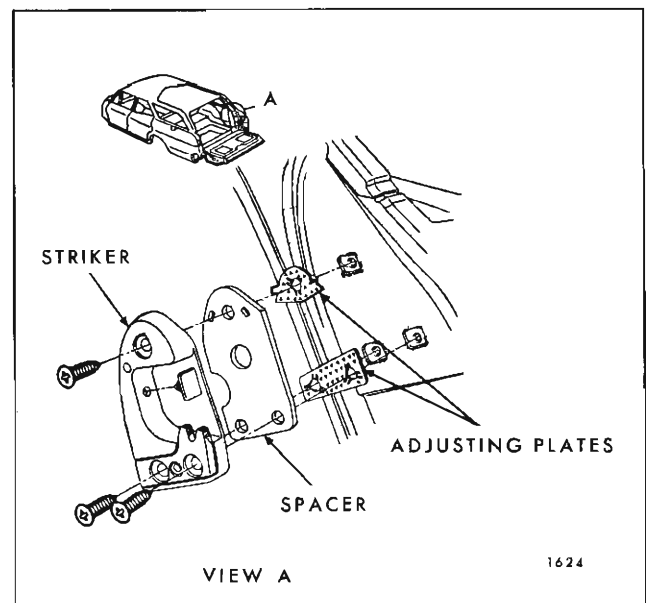

Fig. 1F30—Tail Gate Lock Striker Assembly
3. To install tail gate lock striker, place striker and adjusting plates within marks on body pillar and install striker attaching screws (see Fig. 1F30).
- To determine if tail gate lock striker emergency spacers are required, apply modeling clay or body caulking compound in the lock striker notch where the lock extension engages and then close the tail gate to form a measureable impression in the clay or caulking compound, as shown in Figure 1F31.